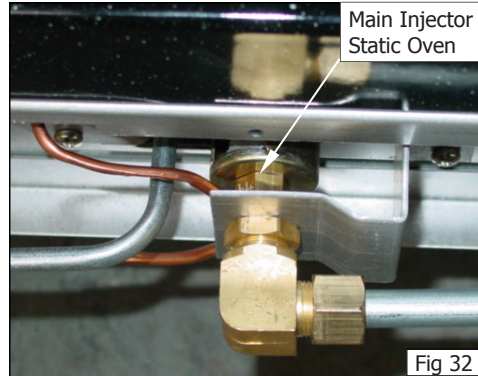

Fig 32
- f. Remove the main injector (See Fig 32) and replace with the correct size injector. (Refer to the 'Gas Specifications' table at the rear of this section).